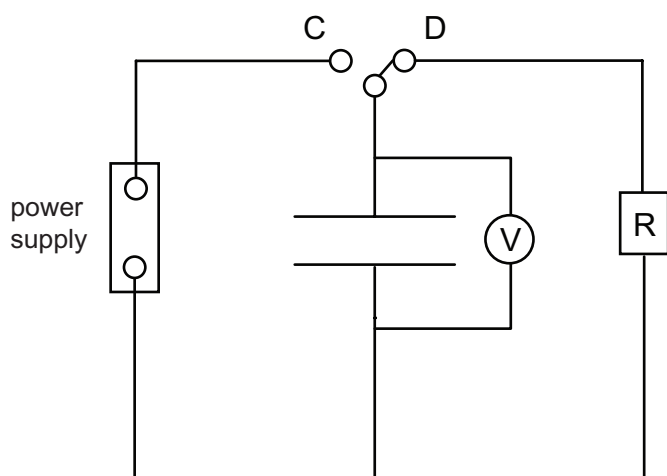

Fig. 2.1
- (b) An identical resistor to that used in (a) has been placed in series with a capacitor in the circuit provided. The arrangement is shown in **Fig. 2.1**. The switch will allow the capacitor to be charged from the power supply unit when in position C and discharged through the resistor when in position D.